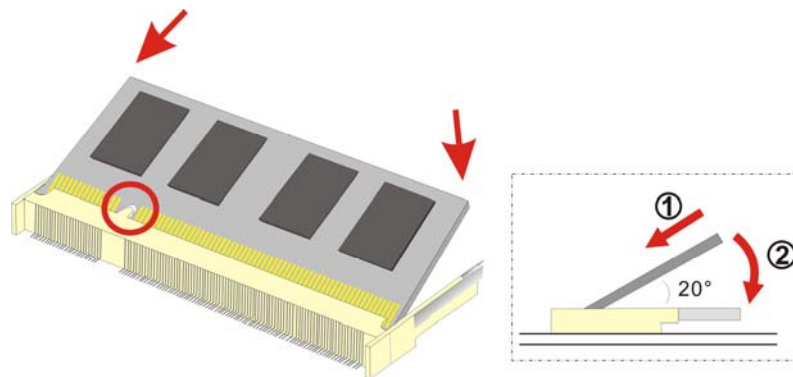

Figure 4-2: SO-DIMM Module Installation
- Step 5:** Install the new SO-DIMM module by pushing it into the socket at an angle (Figure 4-2).
- Step 6:** Gently push the rear of the SO-DIMM module down (Figure 4-2). The spring retainer clips clip into place and secure the SO-DIMM module in the socket.